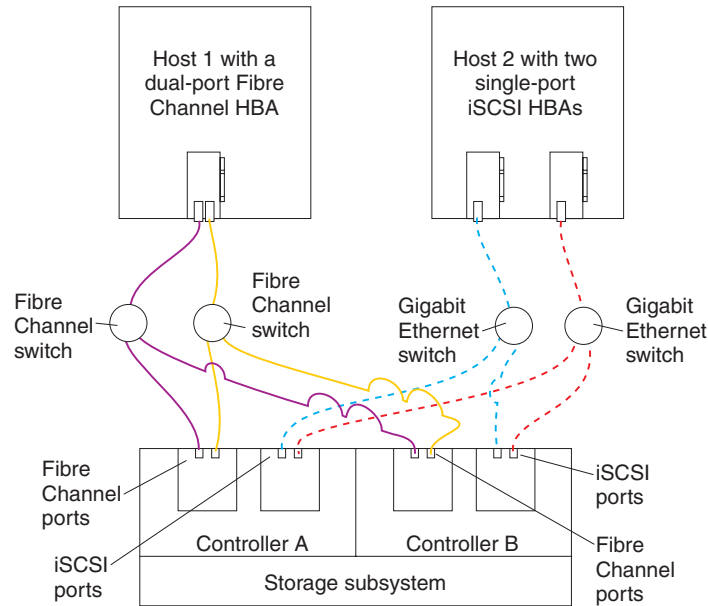

Figure 64. Example of a multiple-host, multiple-port, multiple-switch configuration
- Multiple-host, multiple-port, multiple-switch configuration, as shown in Figure 64 on page 89
Figure 64 on page 89 shows an example of a multiple-host, multiple-port, multiple-switch configuration.